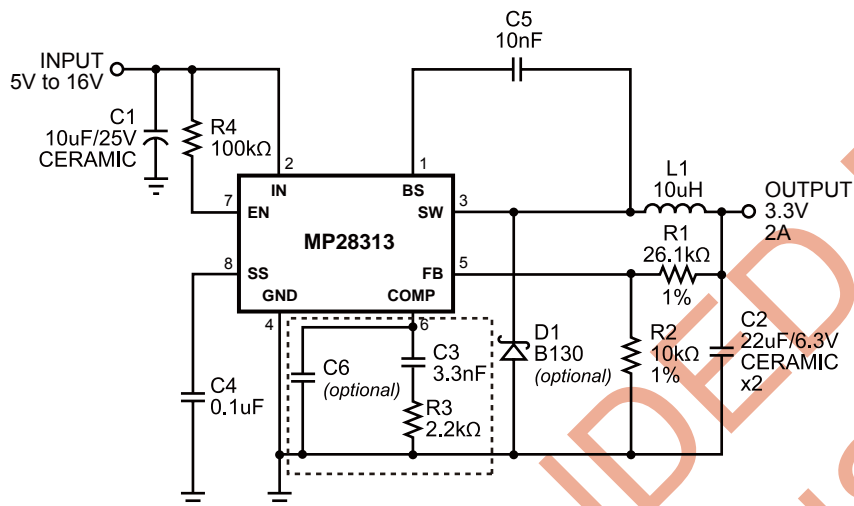

Figure 2—Application Circuit
The system has two poles of importance. One is due to the compensation capacitor (C3, Figure2) and the output resistor of the error amplifier, and the other is due to the output capacitor and the load resistor. These poles are located at:
In this case, a third pole set by the compensation capacitor (C6, Figure2) and the compensation resistor (R3) is used to compensate the effect of the ESR zero on the loop gain. This pole is located at:
1. Choose the compensation resistor (R3, Figure2) to set the desired crossover frequency.
2. Choose the compensation capacitor (C3, Figure2) to achieve the desired phase margin. For applications with typical inductor values, setting the compensation zero, f_{Z1} , below one-fourth of the crossover frequency provides sufficient phase margin.
3. Determine if the second compensation capacitor (C6, Figure2) is required. It is required if the ESR zero of the output capacitor is located at less than half of the switching frequency, or the following relationship is valid:
If this is the case, then add the second compensation capacitor (C6, Figure2) to set the pole f_{P3} at the location of the ESR zero. Determine the C6 value by the equation: